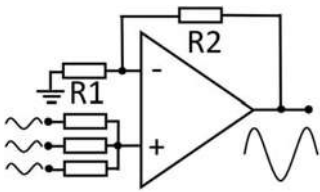

Figure 5. The non-inverting summing amplifier.
4. The *non-inverting summing amplifier* is used to combine the voltages present on two or more inputs into a single output voltage, as in Figure 5. As it is non-inverting, the output will be in phase with the input. The gain of the circuit is set by the ratio of R2 to R1 in a formula.